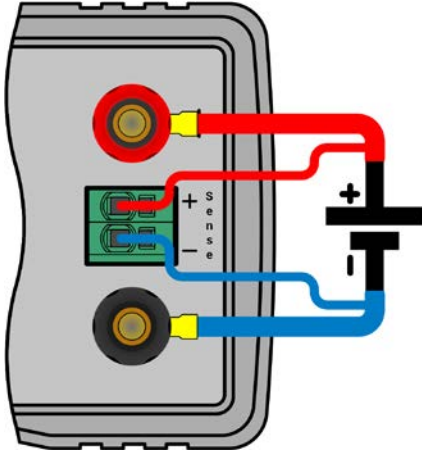

Figure 6 - Example for remote sensing wiring
- Remote sensing is only effective during constant voltage operation (CV) and for other regulation modes the sense input should be disconnected, if possible, because connecting it generally increases the oscillation tendency.
- Sensing cables must be connected + to + and - to - at the source, otherwise the sense input of the electronic load can be damaged. For an example see *Figure 6* below.